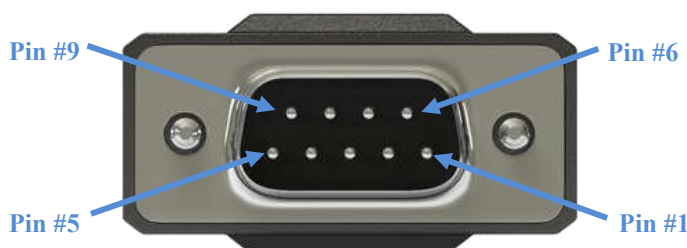

Figure 4: D-sub 9 connector pin numbering
The CT-2000(V) and CT-3000(V) have a standard D-SUB 9-pin (or, commonly referred to as “DE-9”) in both their current output and voltage output versions. The standard pin numbering to refer to is herein presented in **Figure 4**.